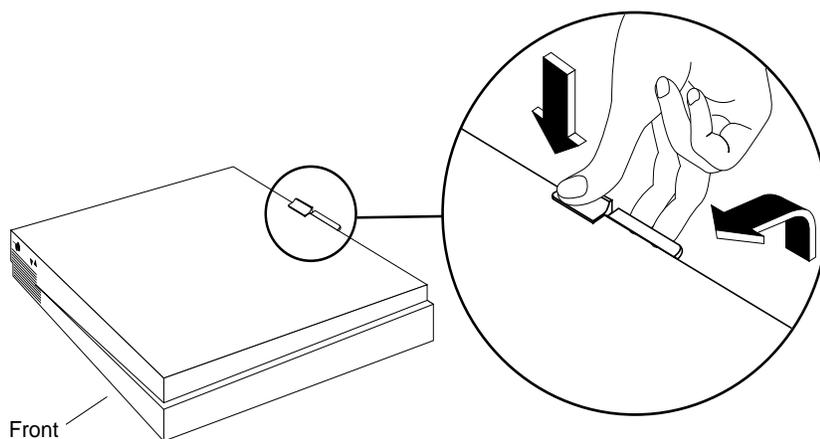

Figure 3-10 Removing the top cover from the Challenge S server
3. Facing the front of the Challenge S server, place your right thumb on the small channel at the back of the cover, and your second and third fingers under the finger ledge, as shown in Figure 3-10.